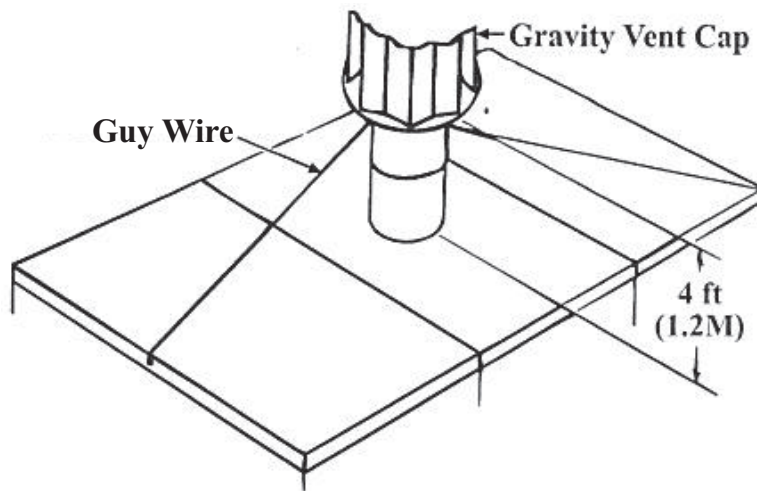

Figure 9. Flue Extension Guy Wires
- To secure the flue extension, three guy wires, spaced 120-degrees apart, must be fastened between the extension and the furnace top using sheet metal screws as shown in Figure 9,